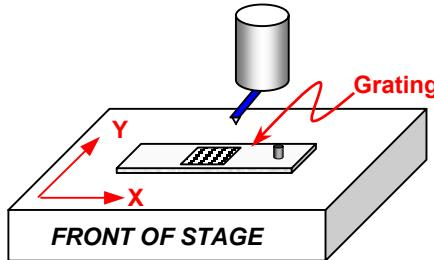
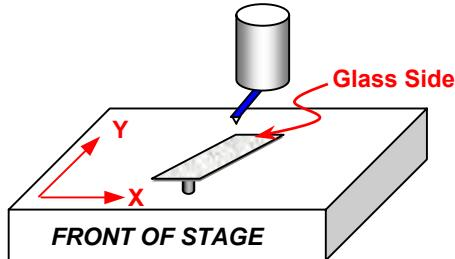

Figure 9-1
Figure 9-3 The glass slide properly positioned under the scanner for z-axis calibration.
- Verify that the lines in the grating fall within $\pm 4^\circ$ degrees of the y-axis of the scanner. For example, refer to the grating image in Figure 9.1. The pitch spacing along the x-axis varies with the cosine of this angle, so keeping the rotation under 4° keeps the pitch error under 0.25 %.
Locate at the calibration glass slide provided with your instrument (Ref. Figure 9-1). When this slide is placed on the translation stage upside-down, so that it is supported by one edge of the glass and the metal post (Figure 9-3), the surface of the glass slide will have a 10% slope. The 10% sloped surface is used to calibrate the z-axis of the scanner via the previously performed xy calibration. Provided the xy axis are calibrated correctly, in a scan of this surface we know that for every 10 μm of motion along the direction of the glass slope, the surface must rise 1 μm . This known vertical change is used to calibrate the z-axis of the scanner.